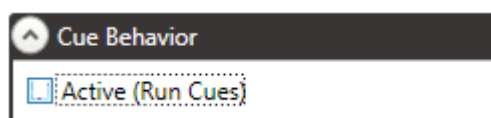

Figure 183
2. In the **Cue Behavior** section of the **Stagehand FX Editing Pane**, deselect the **Active** field (Figure 183).